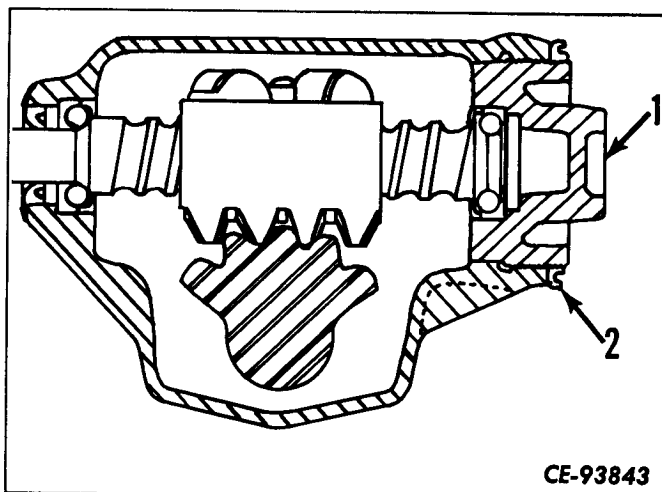

Figure 8-18
- Loosen the locknut (2, Fig. 8-18).
- Turn the adjuster (1) until the required resistance to pull is reached.